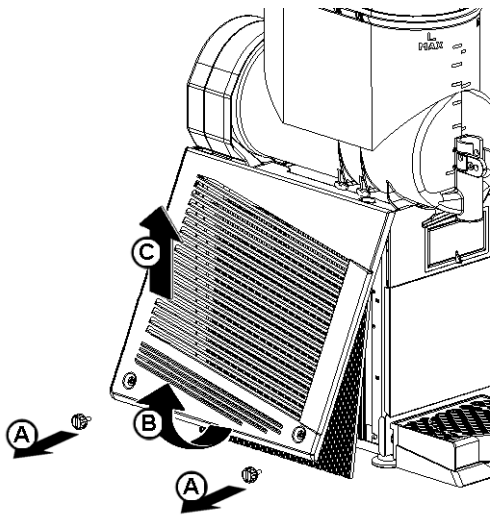

figure 19
**2 Monthly:** remove the dust from the condenser filter. A blocked filter will reduce performance and could cause compressor failure. Remove the only left panel (from faucet side) unscrewing the two plastic coated screws (see figure 19).